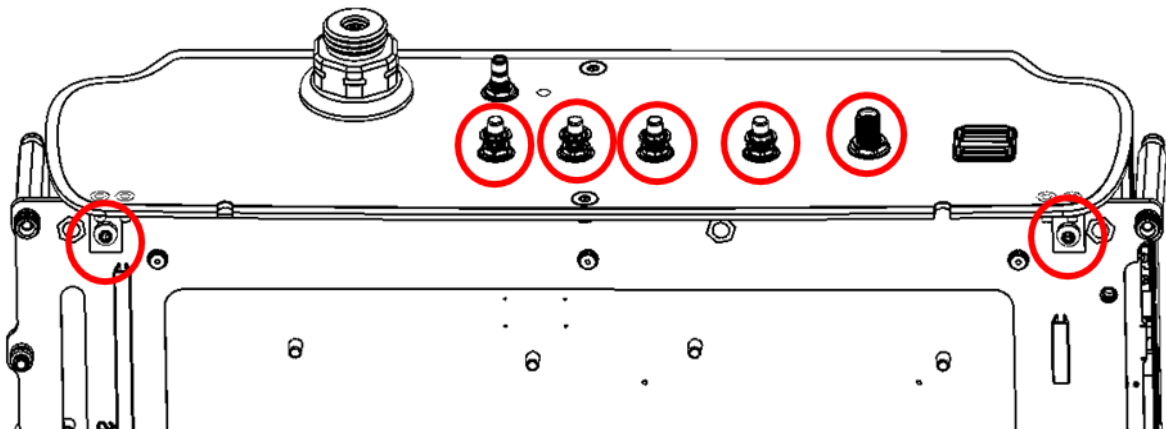

**Figure 5-10.** Top Panel Removal - Step A
6. Remove the Top Panel by removing the two screws attaching the Top Panel to the Main PCB and the 5 nuts securing the 5 coaxial connections shown in Figure 5-10.